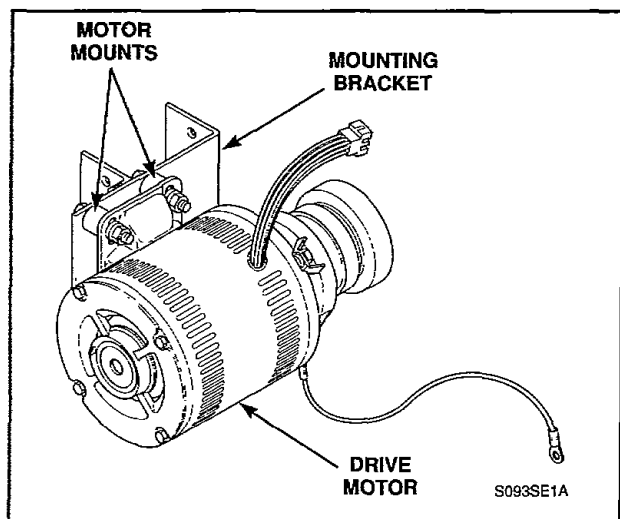

Figure 36
- Remove four nuts, washers and lockwashers holding drive motor to rubber motor mounts, *Figure 36*.